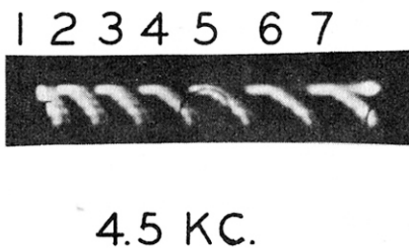

Fig. 20
Step 6. Rotate calibrate switch 1 Notch clockwise to the "7" position. The screwdriver slot should point vertically. Adjust 4.5 KC or "7" control for 7 bars on the face of the CRT. This is shown in Fig. 20. Set the control to the center of the range over which the pattern is in sync.